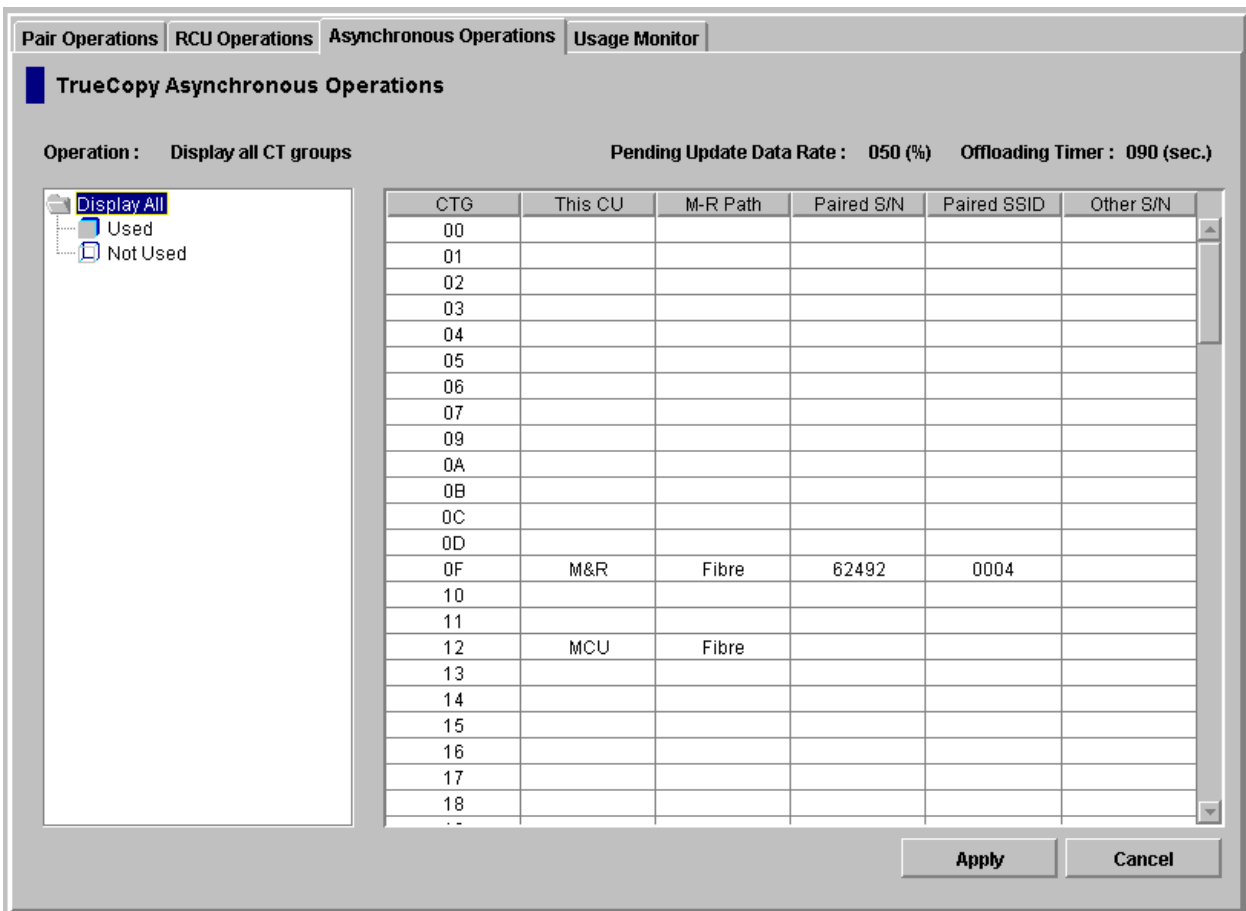

Figure 4.6 Asynchronous Operations Tab
The **Asynchronous Operations** tab (see Figure 4.6) displays the consistency (CT) group information for the connected subsystem and allows you to perform the TrueCopy Asynchronous configuration operations (see section 4.3).